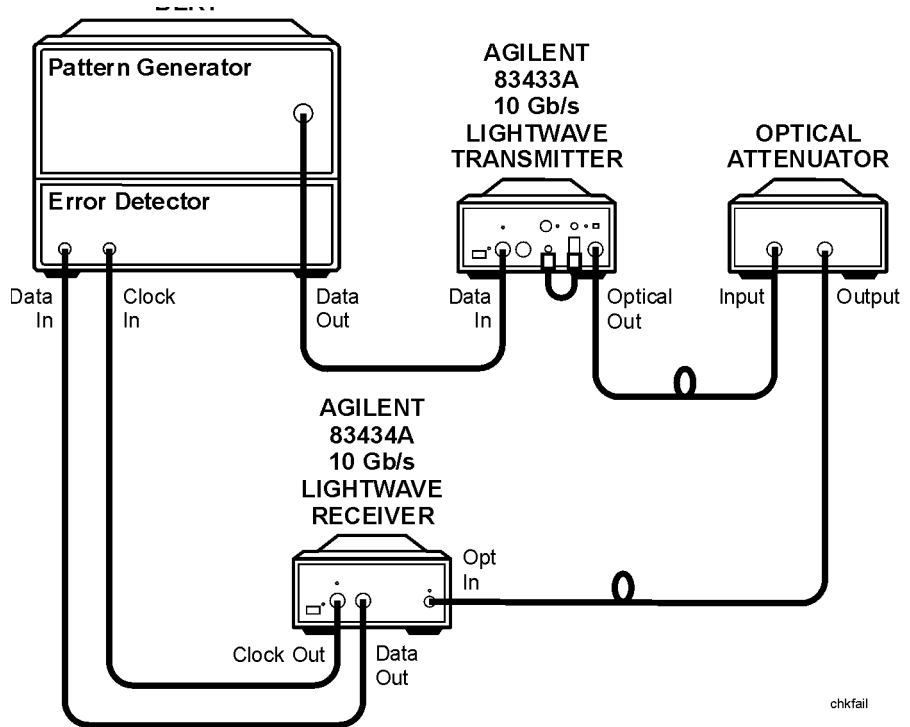

Figure 2-2. Connecting the Agilent 83433A to a bit-error-ratio test system.
- 1** Connect the equipment as shown in Figure 2-2.